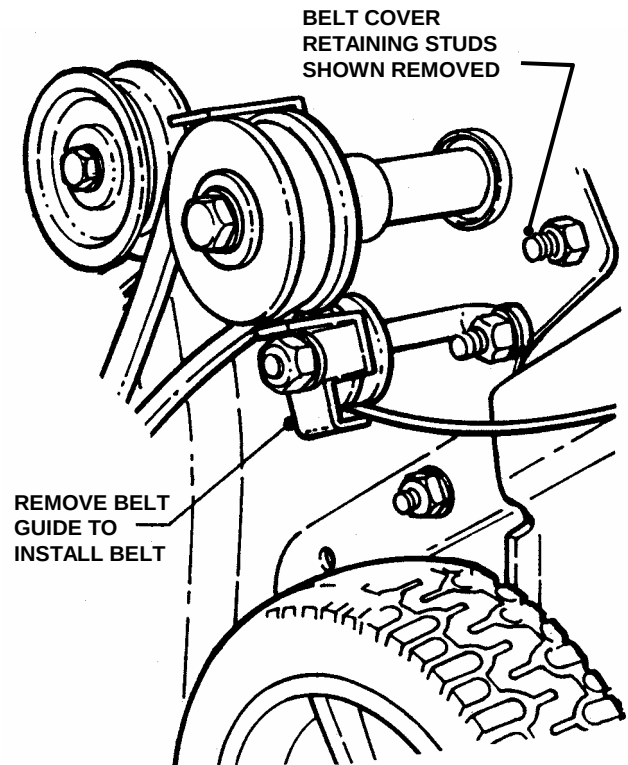

FIGURE 5.4
2. Remove belt guide. See Figure 5.4.